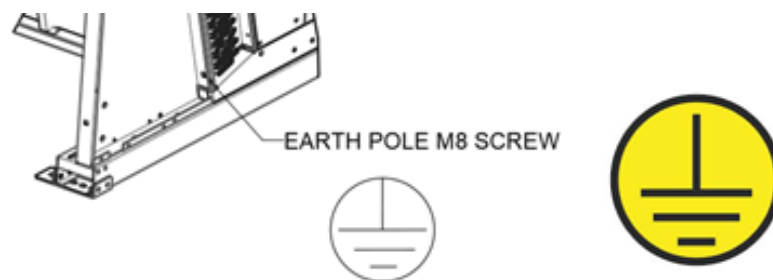

Fig. 6.3 - Detail of the position of the ground pole.
The unit is equipped with one or more ground poles (PE) with an identification label. **It is mandatory to connect all the ground poles of the unit to the system or to the external grounding conductor (see Fig. 6.3).**